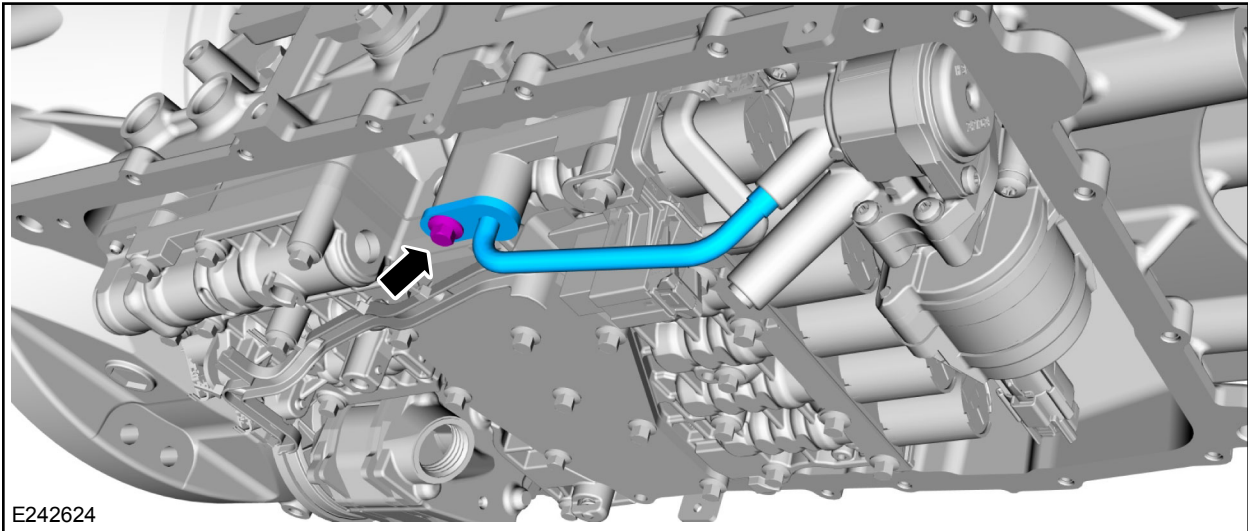

FIGURE 1
3. Remove the bolt and the transmission fluid auxiliary pump tube. See Figure 1.